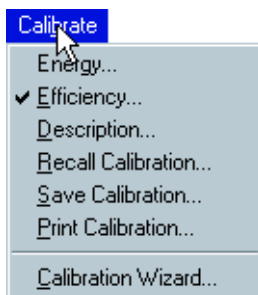
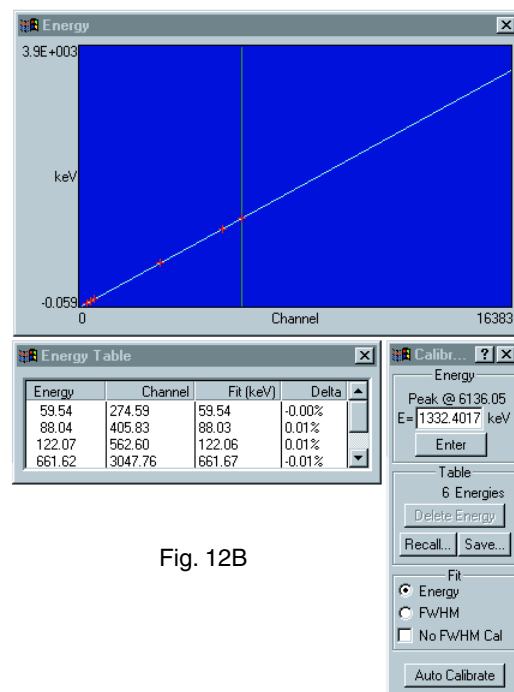

Fig. 12A
Fig. 12B
1.11 Choose Calibrate, Energy (Fig. 12A). Three new windows will appear — **Energy**, **Energy Table**, and **Calibr**, (Fig. 12B). These windows may be selected and moved by left-clicking and dragging the upper colored part of each window.